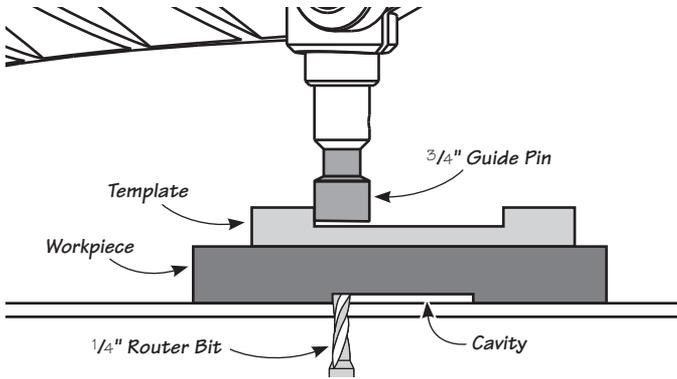

Figure 21b: Using template to cut cavity for inlaid part.
Step 2, *Cut Cavity*, with the $\frac{3}{4}$ " guide pin and $\frac{1}{4}$ " bit installed, use the template you just created to cut the cavity for the original part. The original part should fit snugly (**Figure 21b**).